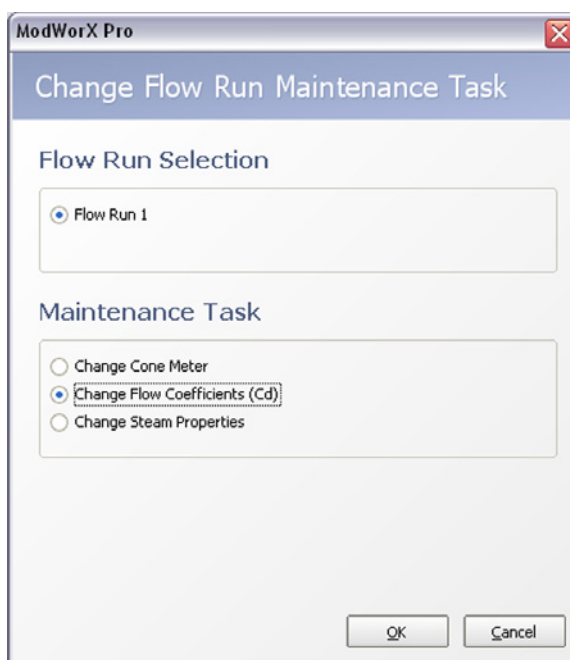

Figure 10.12
1. If Change Steam Properties is not displayed in the Maintenance Task field at the top of the Maintain Flow Run screen, click on **Change Task**. The Change Flow Run Maintenance Task dialog will appear (Figure 10.12, page 153).